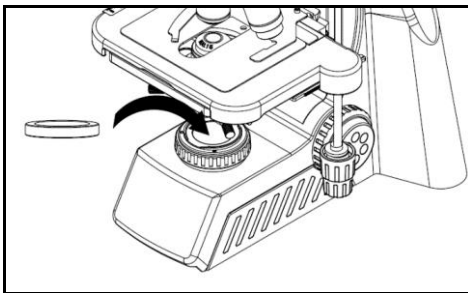

Fig.39
1. Place the polarizer directly over the collector, as shown in figure 39;